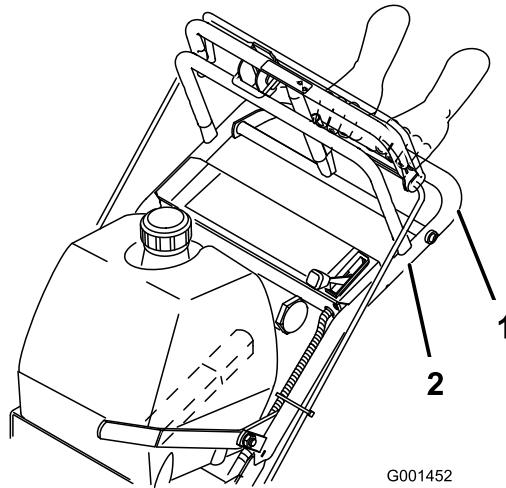

Figure 12
4. At the same time engage lower control bar and lift up on the lower handle (Figure 10 and Figure 12).